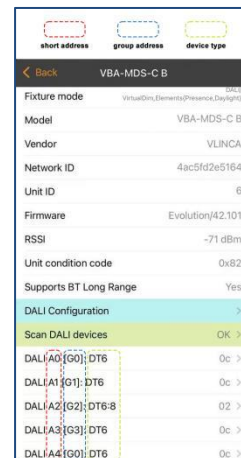

Figure 3
- **Make notice**, if the fixture is "control 4 ID", then only the short address within 0-3 can be controlled. if it is "control 4 Groups DT6", then only the group address within 0-3 can be controlled (as in Figure 3)